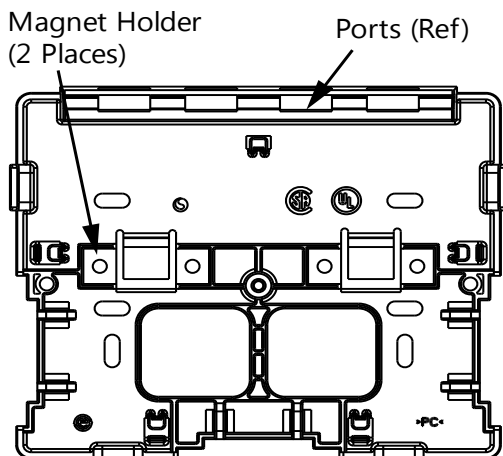

Figure 4
1. Slide a magnet under each magnet holder on the top of the module base as shown in Figure 4.